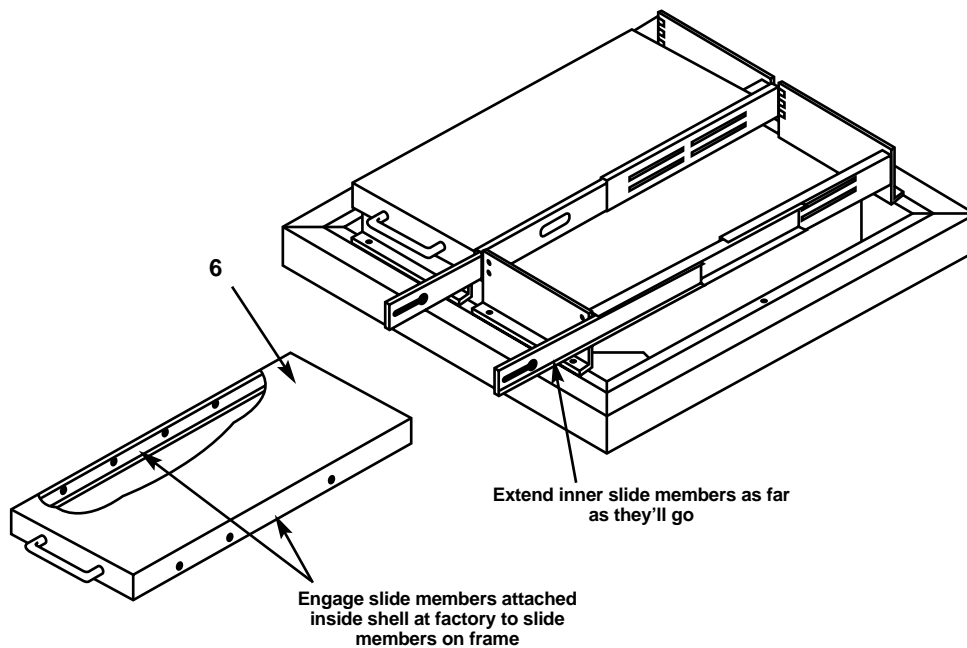

Figure 4. Sliding the drawer into the cabinet.
3. Extend the inner slide members of the slide assemblies you just installed as far as they'll go, as shown in Figure 4. One at a time, take each shelf assembly (item 6) and slide it onto the the extended slide members, mating them with the slide members attached to the inside of the shelf. Slide the drawer all the way to the rear of the cabinet to engage it.